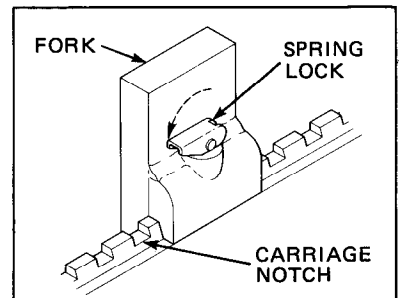

Figure 3 - Lock Fork in Place
4. Lock the fork in place by pushing the lever down as shown in Figure 3, making sure the pin is engaged in the notch.
3. Lock the fork in place by pushing the lever down as shown in Figure 3. Make sure the pin is engaged in the notch.